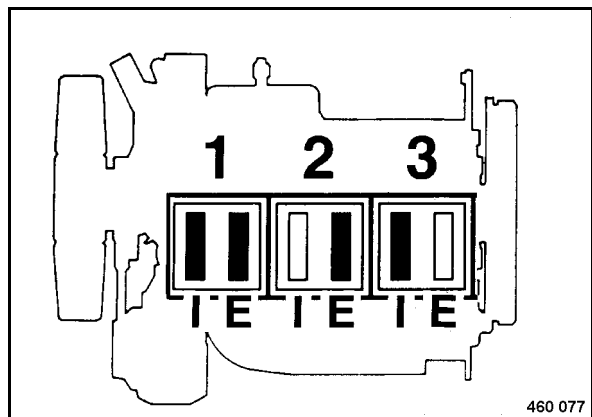

Fig. 120
- Check the valves marked black (Fig. 120) on cylinders 1, 2 and 3, adjust if necessary.